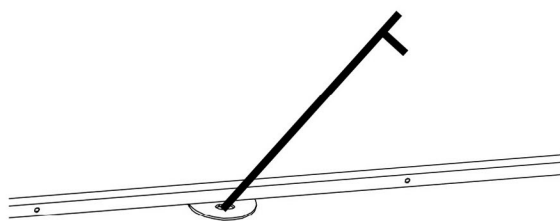

Figure 13.
Step 13. Your Buck Blind comes with four anchor stakes one for each anchor point on the bottom main frame, they need to be hammered all the way into the ground at approximately a 45 degree angle as in Figure 13.